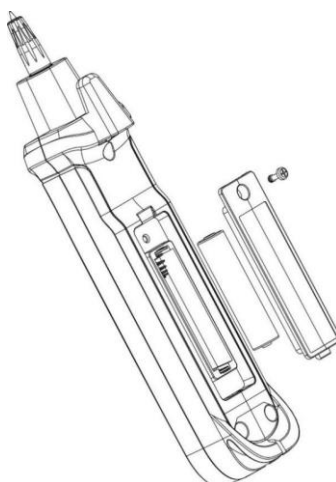

Figure 9
2. Battery installation or replacement (Figure 9)